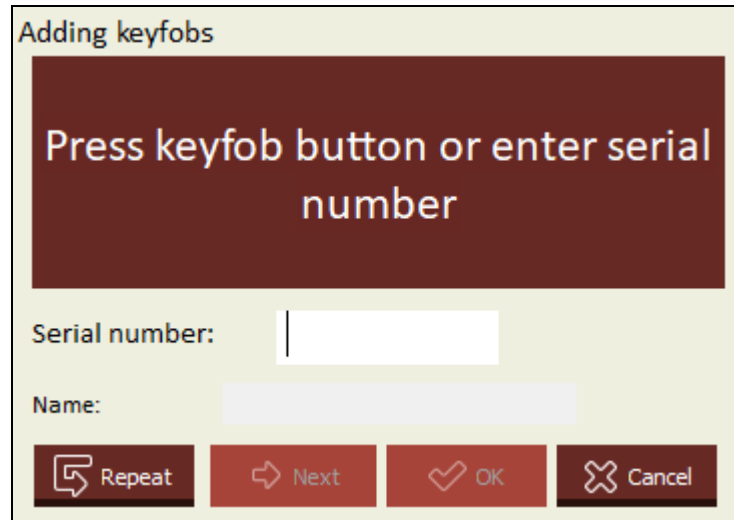

Fig. 10. "Adding keyfobs" window after opening.
1. Click . The “Adding keyfobs” window will open (fig. 10).